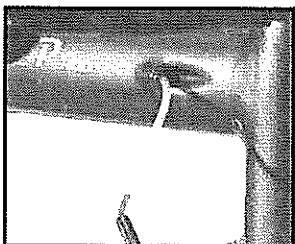

Fig. 11
2. Thread the cables into the front of the top tube liners (Fig. 11).